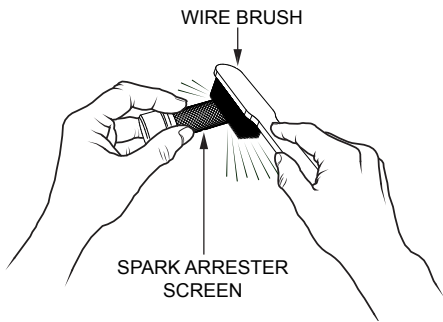

Figure 33. Cleaning The Spark Arrester
- Carefully remove carbon deposits from the spark arrester screen (Figure 33) with a wire brush.